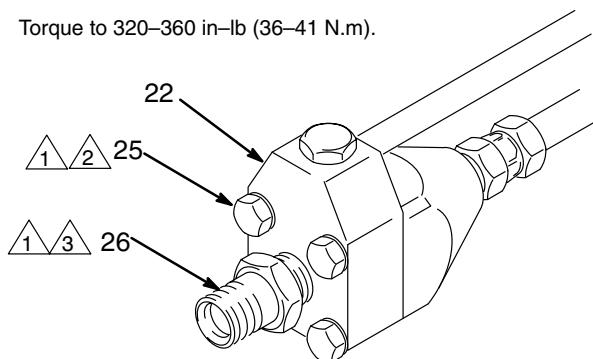

Fig. 5
10. **After the first 3 to 5 hours of operation** torque the four screws (25) on the bottom of the paint pump to 170–200 in-lb (19–23 N.m). See Fig. 5.
11. **Also torque** the inlet valve (26) to 320–360 in-lb (36–41 N.m).